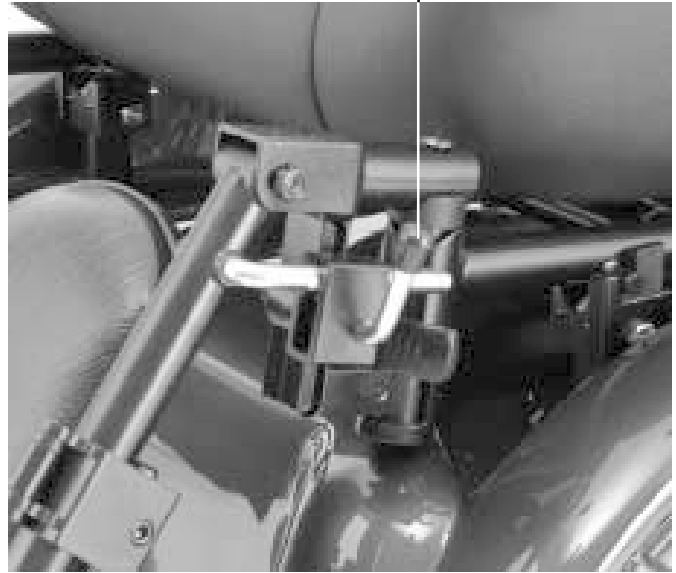

Figure 16. Elevating Leg Rests
1. Press the release lever. See figure 16.